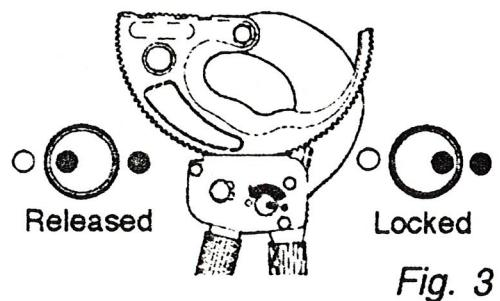

Fig. 3
1. Release hand lever by turning locking knob half-way round until the red dot points to the green one on the cover plate (fig. 3).